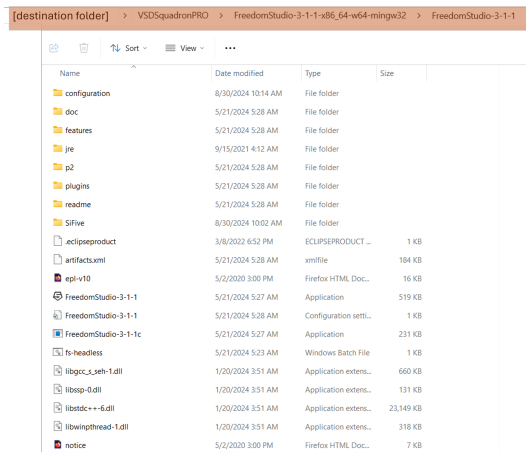

Figure 6: Freedom Studio 3.1.1 extracted folder structure
- Go to folder highlighted in Figure 6 and you should see all required files as shown in same Figure 6